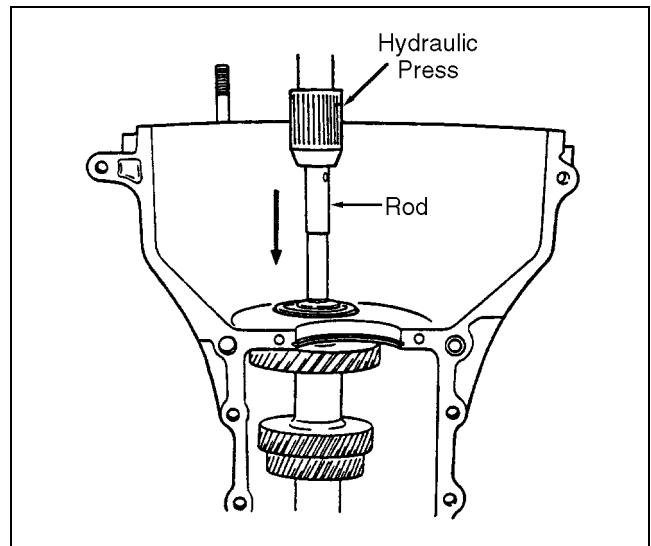

Figure 4H-8. Countershaft 6 Step 5
1. Refer to Figure 4H-9, remove the oil seal, retaining ring, bearing and input shaft. Pull out the input shaft, by hand, taking care not to drop the high speed synchronizer rings.